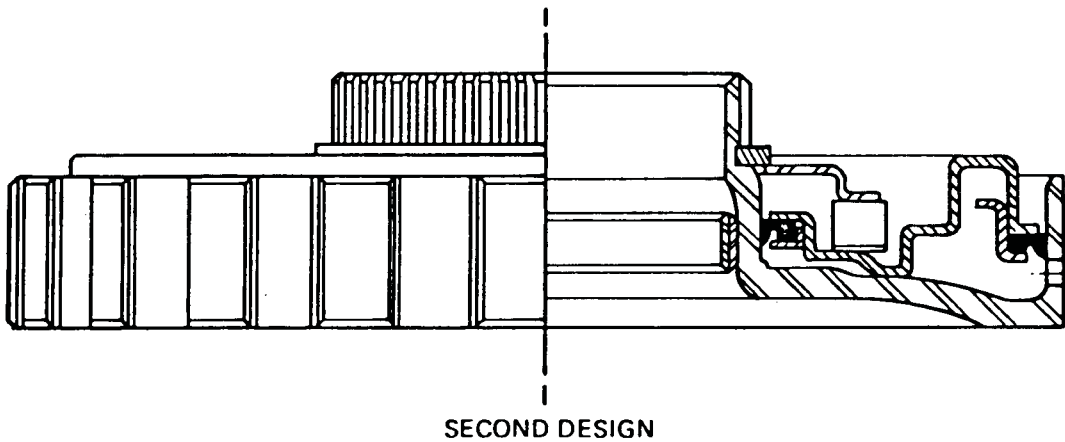

Figure 37
- 1) Low and reverse piston redesigned and apply ring eliminated. See Figure 37. This design allowed the lip seal retainer to become separated from the low and reverse piston assembly, creating a no reverse, or neutral to reverse delayed engagement condition. Do not use this type.